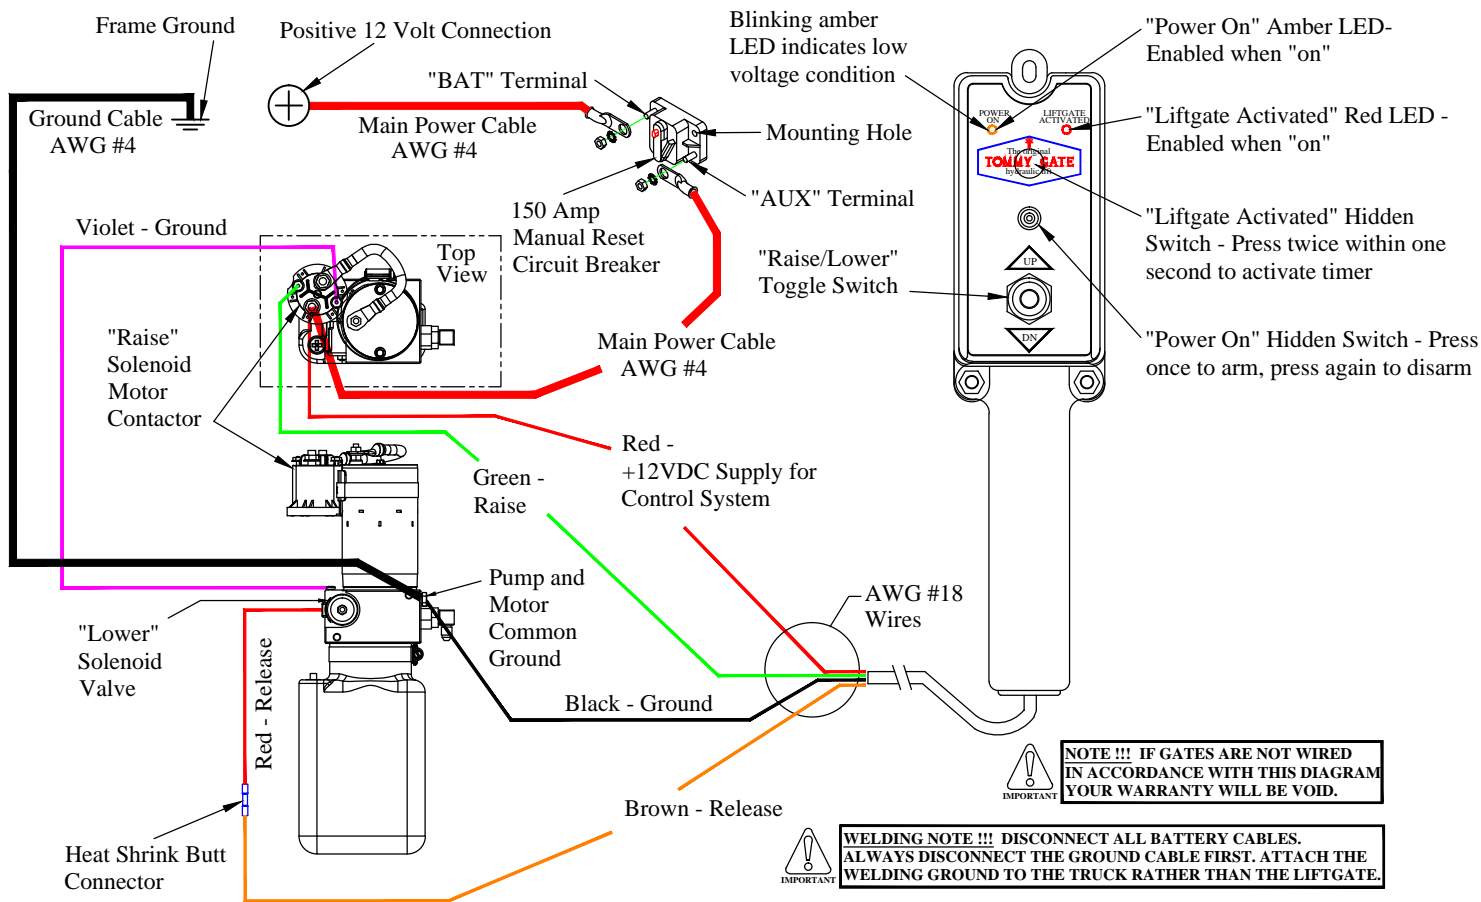

Figure 21: Wiring diagram.
Note: Follow the *Tommy Gate Recommended Electrical Wiring Guidelines* and wiring diagram (Figure 21) in the following steps.
13. Connect the circuit breaker (Figure 21). Use the supplied heat shrink tubing.
21. **Connect** the positive(+) lead to the CCP bus bar. Use the supplied 5/16" bolt, lock nut, and two (2) pieces of heat shrink tubing to cover the cable connection to the bus bar.
23. **Push** the hidden "Power On" switch (Figure 21). The amber "Power On" LED will illuminate.